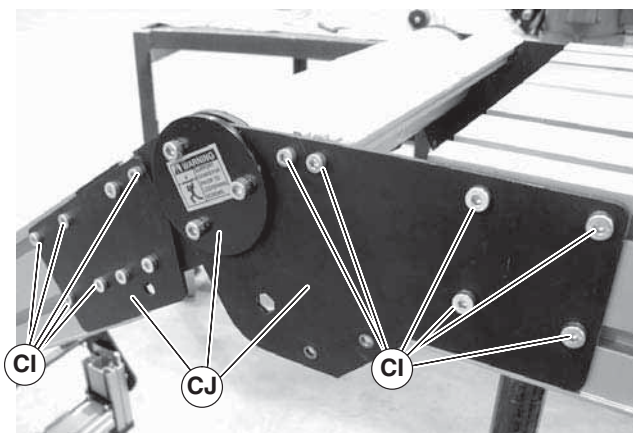

Figure 74
3. On one side of knuckle, remove screws (Figure 74, item CI) and knuckle plate assembly (CJ).
4. Slide the idler pulley assembly (Figure 74, item CK) out of the knuckle plate on the opposite side.